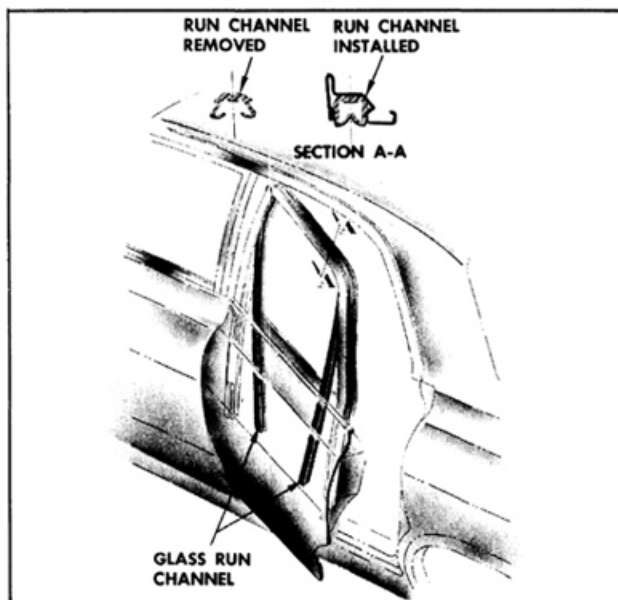

Fig. 16-355 69 Style - Rear Door Glass Run Channel Assembly
3. With finger pressure, squeeze run channel together and gently pull run channel out of rear door upper frame and remove from door. (Fig. 16-355)